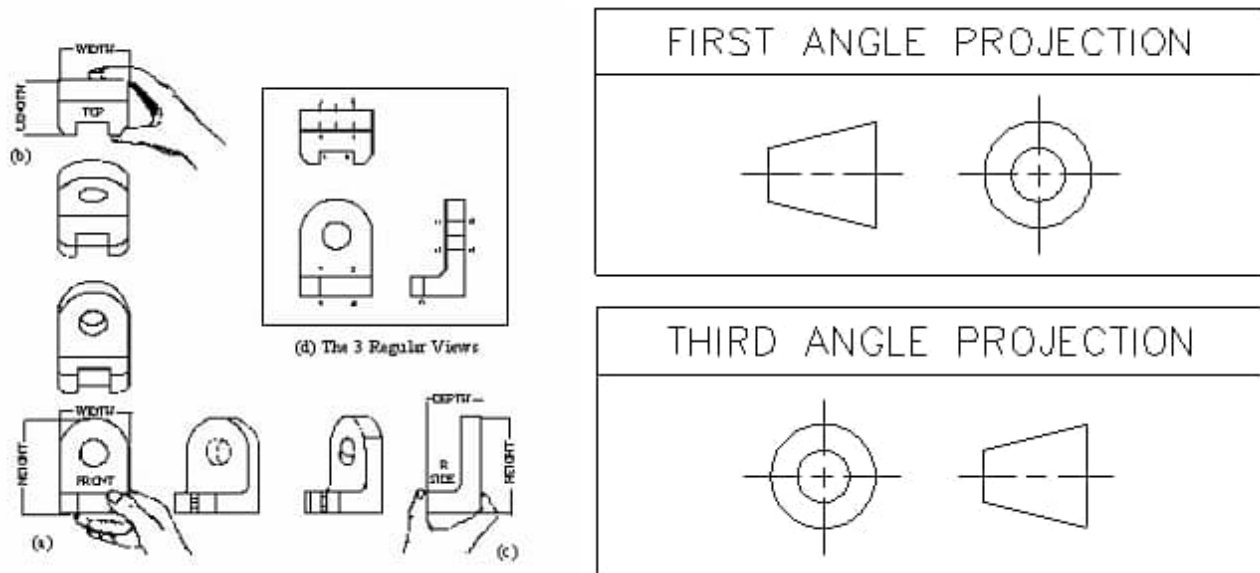

Figure 6: Third Angle Projection
- 4.1.4 Drawings are to be illustrated in either third angle projection or first angle projection and shall be clearly designated with the respective legend shown in Figure 6.